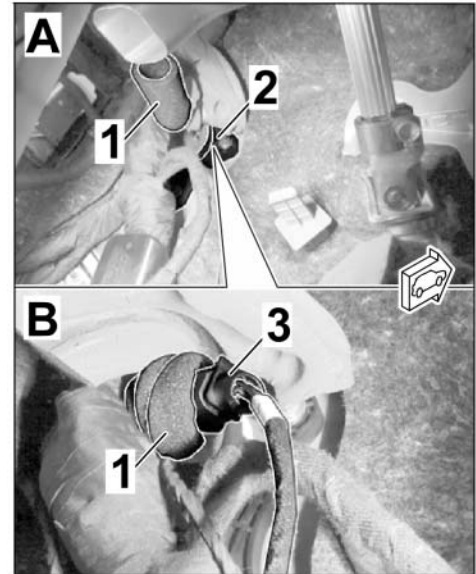

Figure 27
- 3.1.1 Expose the connection point (preparation = socket connector, 6-pin) in the passenger compartment of the vehicle, area of bulkhead grommet, A-pillar left. ⇒ *Figure 27-A-*
- 3.1.3 Establish a connection between the plug connection preparation and the wire harness for the exhaust flaps (6-pin). ⇒ *Figure 27-B-*